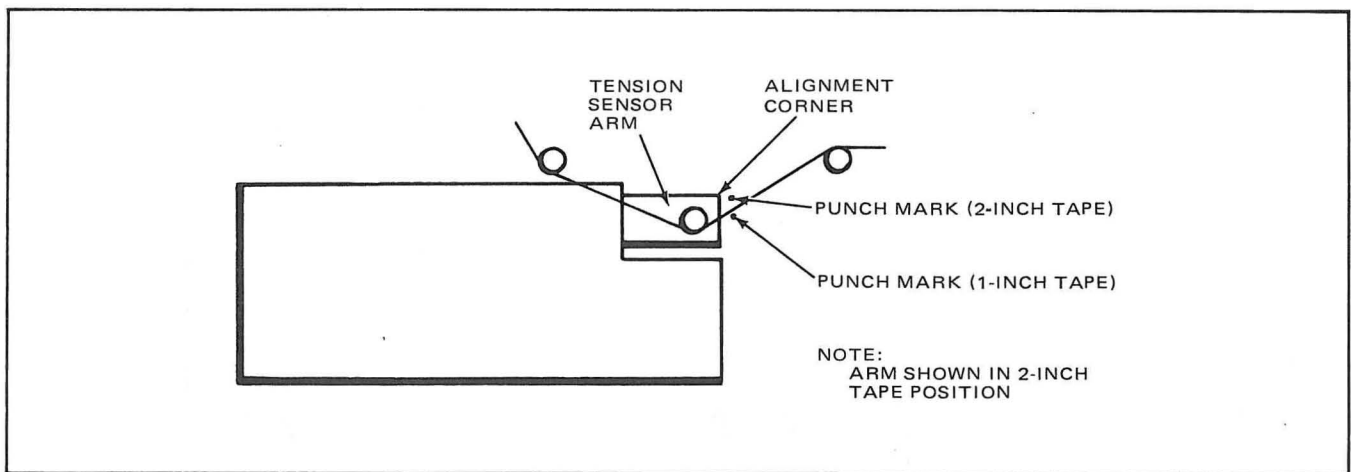
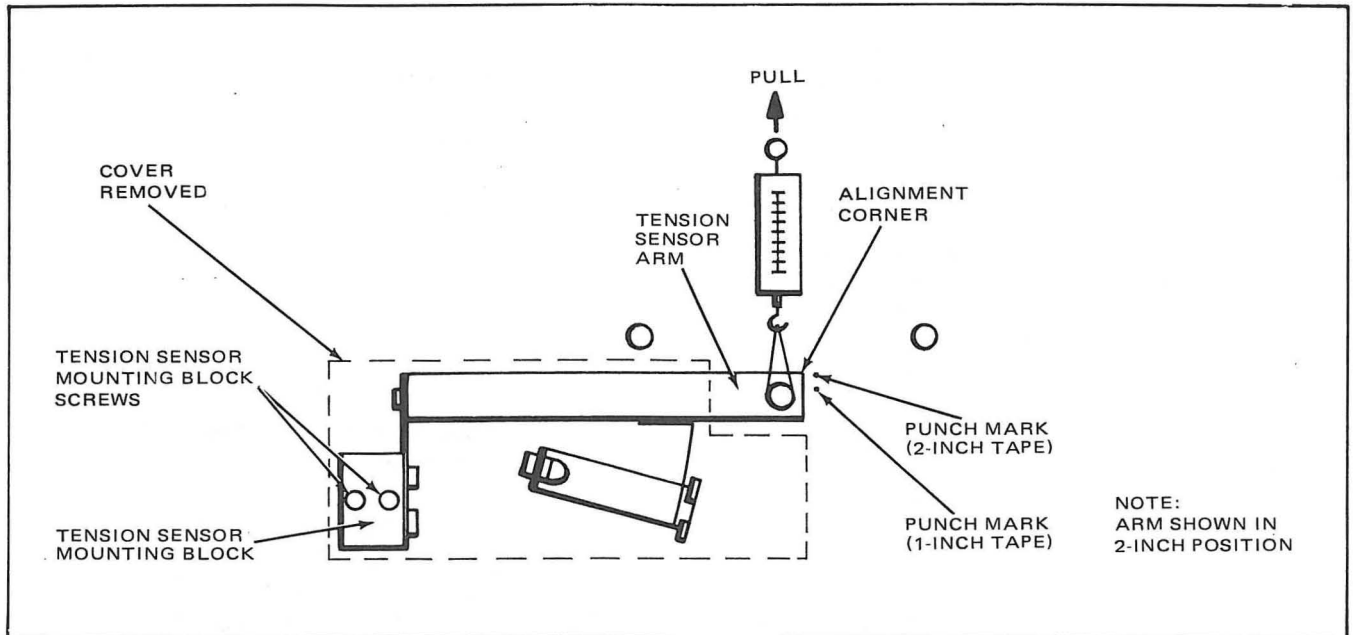

Figure 5-3. Positioning Tension Sensor Arm
Figure 5-4. Tension Sensor Arm Calibration
The tension sensor arm (Figure 5-3) is calibrated at the factory. If the position of the tension sensor arm or tension sensor mounting block (Figure 5-4) is changed or if the adjustment specified in step 2 of the following Stop Tension adjustment procedure cannot be achieved, perform the Tension-Sensor Arm Calibration procedure.
2. Turn on recorder/reproducer, hold takeup reel, and adjust STOP SUPPLY tension potentiometer R3 until the alignment corner of the tension sensor arm shown in Figure 5-3 is just aligned with the punch mark for two-inch tape or one-inch tape, as required.
2. Push the PLAY button while holding the takeup reel securely. Adjust PLAY SUPPLY potentiometer R2 (two-inch tape) or R10 (one-inch tape) until the tension sensor arm lines up with the punch mark for two-inch or one-inch tape as required (Figure 5-3). Now release the takeup reel and adjust PLAY TAKEUP potentiometer R5 until tensions are approximately equal on both reels (i.e., tape stopped).
3. Thread tape normally and press PLAY button. The alignment surface of the tension sensor arm shown in Figure 5-3 must be aligned with center of the appropriate punch mark. If not, readjust R2 (two-inch tape) or R10 (one-inch tape) until correct alignment is obtained.
1. Shuttle tape so two thirds of the tape is on the supply reel. Push the REWIND button. After the tape has accelerated to maximum speed, adjust REW TAKEUP potentiometer R4 so that the tension sensor arm aligns with the punch mark (Figure 5-3) for two-inch or one-inch tape as required.
2. Using a 30-ounce spring gauge, pull tension sensor arm as shown in Figure 5-4. The alignment surface of the tension sensor arm (Figure 5-4) must align with the punch mark for one-inch tape when the gauge indicates 4 ounces and with the punch mark for two-inch tape when the gauge indicates 8 ounces.